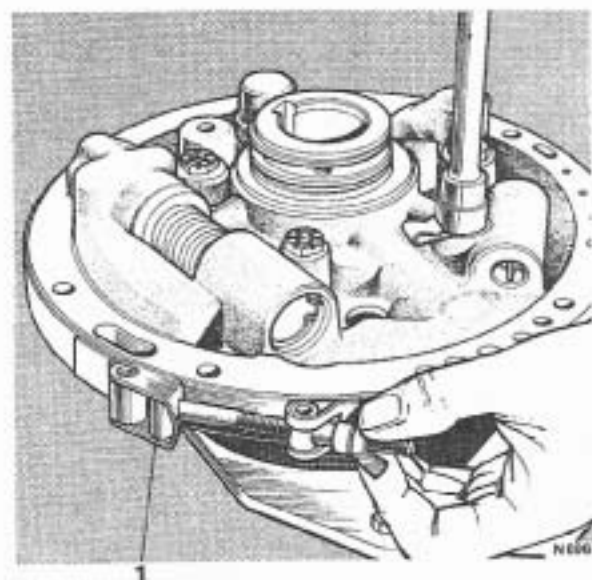

FIG. T231 ALIGNING THE PUMP COVER WITH PUMP BODY
15. Fit the pump body and cover alignment band J-21368 around the pump assembly. Tighten the wing nut on the band to align the cover with the body (see Fig. T231).